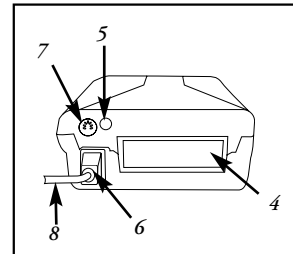

Figure 3
- Insert the appropriate power cord into the AC power connector **Figure 3**.